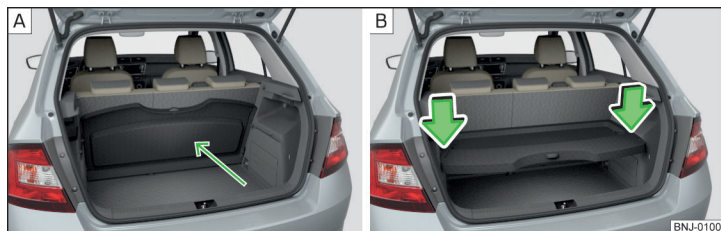

Fig. 108 Luggage compartment cover: stowed behind the rear seats/in the lower position
The cover can be removed from the vehicle and stowed behind the rear seat backrests if required » Fig. 108 on page 84.
The luggage compartment cover behind the rear seat backrests can be stored » Fig. 108 - **[A]** or in the lower position » Fig. 108 - **[B]**.
- Press the top of the cover in the arrow direction » Fig. 108 - **[B]**.